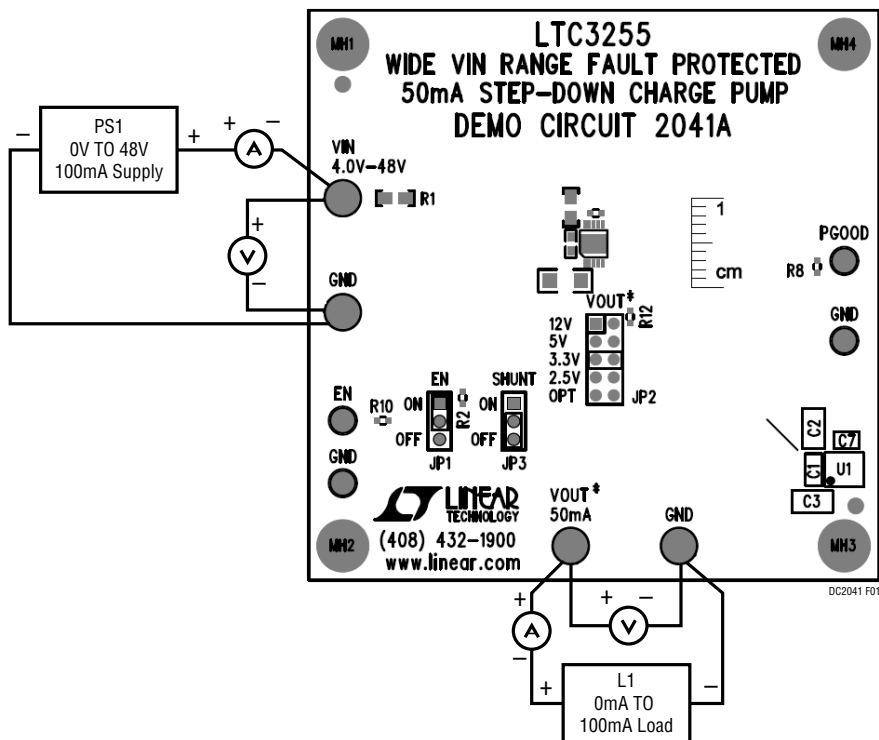

Figure 1. Proper Measurement Equipment Setup with Shunt Disabled
The DC2041 is easy to set up to evaluate the performance of the LTC3255 with the shunt disabled. Refer to Figure 1 for proper measurement equipment setup with the shunt disabled and follow the evaluation procedure below. To evaluate the LTC3255 with the shunt enabled, go to the SHUNT ENABLED section.
4. With power off, connect a 0V to 48V, 100mA power supply to V_{IN} and GND with a voltmeter as shown in Figure 1.